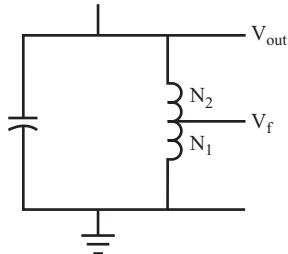

FIGURE 9.13
- 17** Figure 9.13 shows a parallel LC circuit in which the feedback voltage is taken from a tap N_1 turns from one end of a coil, and N_2 turns from the other end.